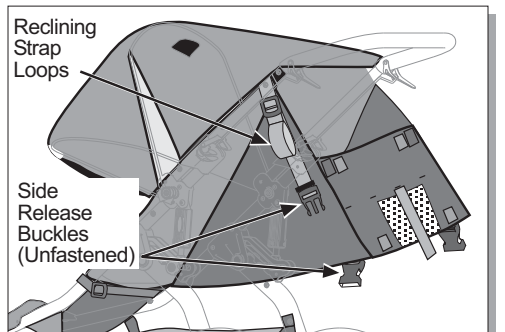

Fig. 22 Seat in fully reclined position. (single seat shown)
To fully recline the seat, unfasten side release buckles at seat back. (Fig. 22)
**⚠ WARNING: When seat is fully reclined, (Fig. 22) backward tip-over is more likely, and may result in an accident or injury, as seat and/or passenger may contact ground before handlebar.**